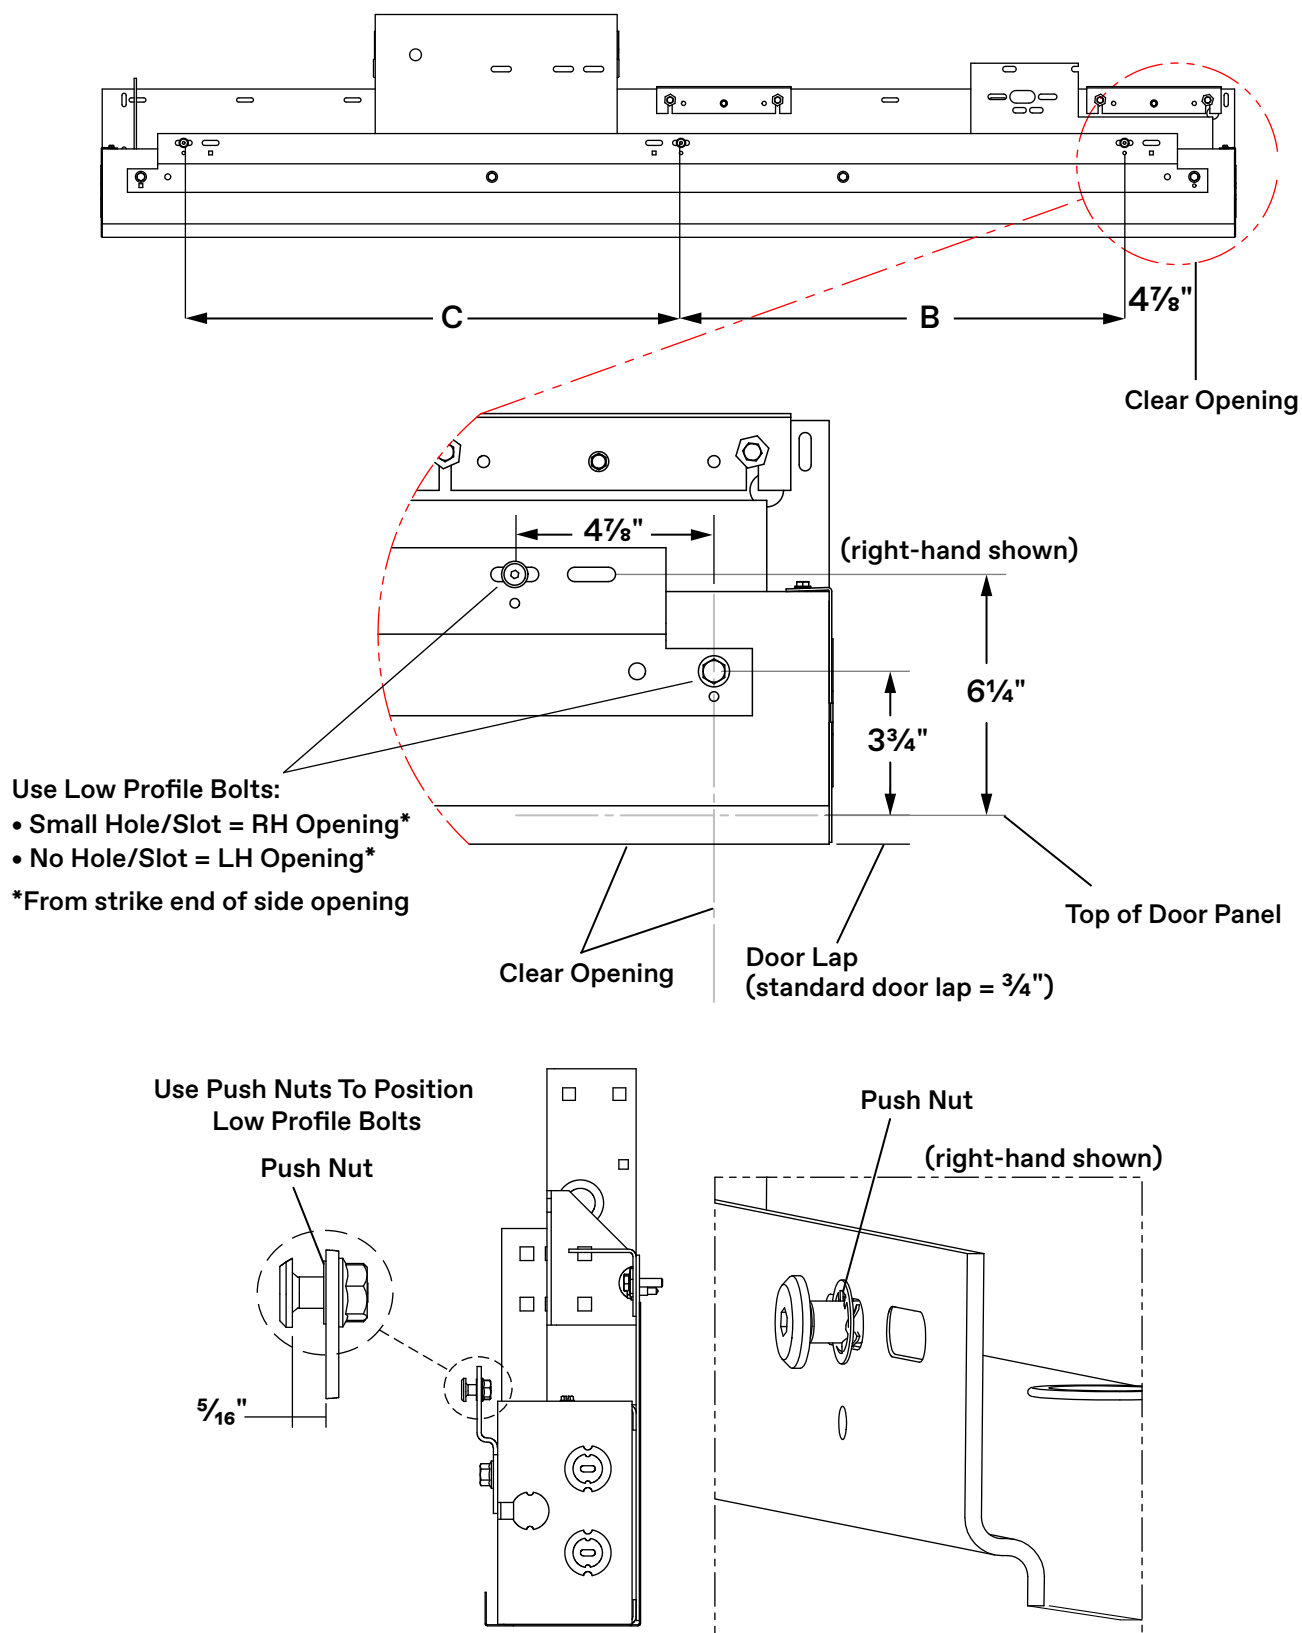

Figure 5 - Adapter Angle Installation (2 of 2)
7. Use the existing door track holes to align the adapter angle. See Figure 4 below and Figure 5 on page 11.